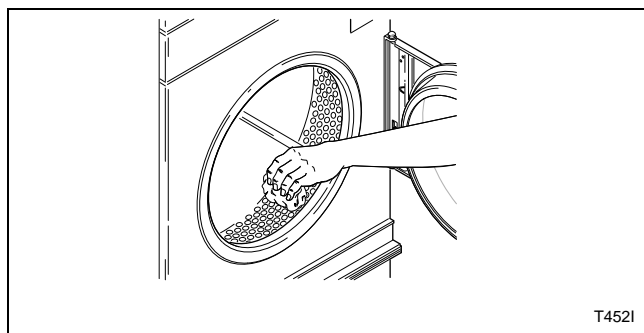

Figure 13
10. Wipe out the cylinder using an all-purpose cleaner or detergent and water solution. Refer to *Figure 13*.